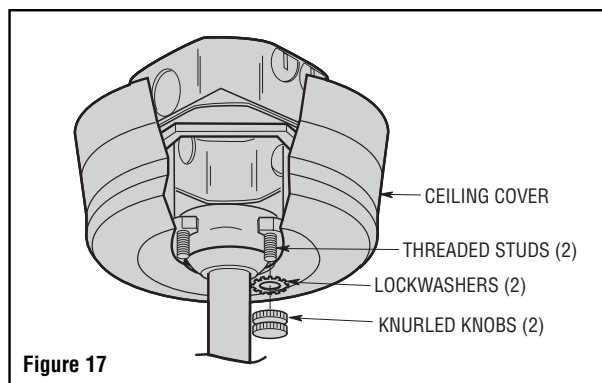

Figure 17
6. Lift the ceiling cover up to the threaded studs and turn until studs protrude through the holes in the ceiling cover (Figure 17).
7. Secure the ceiling cover in place by sliding lockwashers over the threaded studs and installing the two knurled knobs (supplied). (Figure 17). Tighten the knurled knobs securely until the ceiling cover fits snugly against the ceiling and the hole in the ceiling canopy is clear of the downrod. Your fan is now wired to be turned on and off from the wall switch.